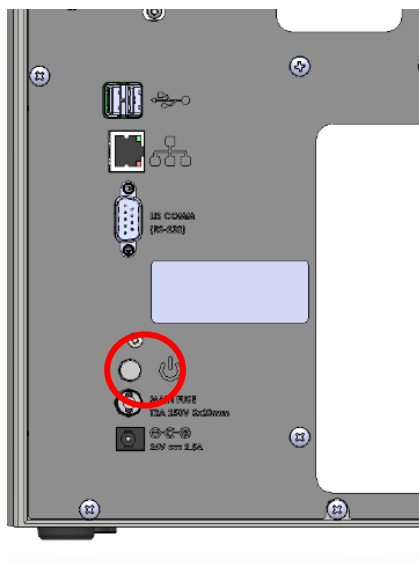

Figure 1A
4. Power off instrument and disconnect the power supply from power input at the rear of the device. See Fig. 1A.